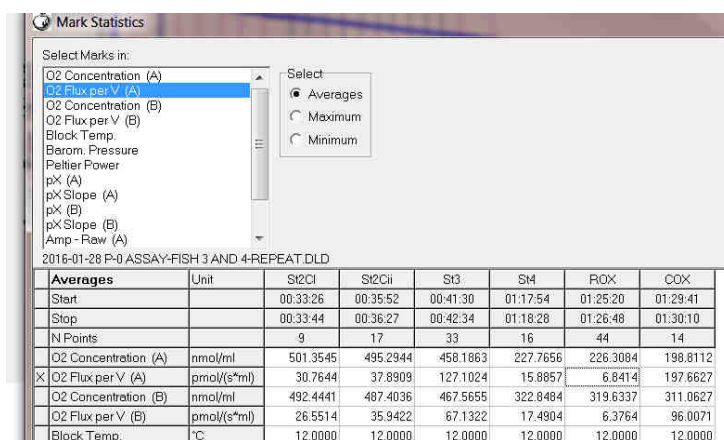

Figure 10.
- Go to "Marks">"Statistics" (Figure 10).